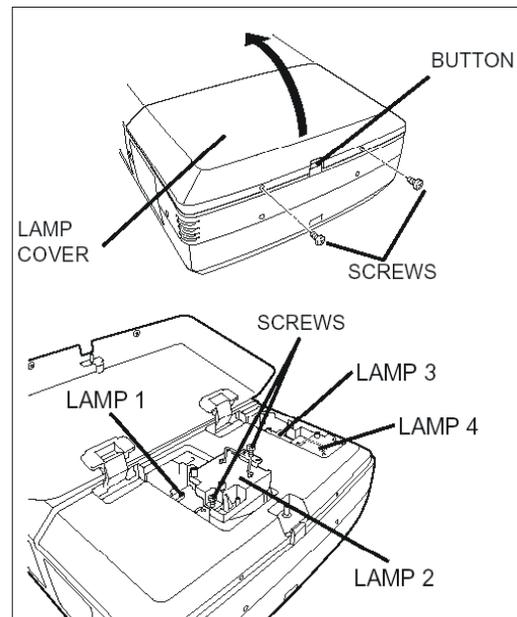

Figure 1. Lamp Cover and Lamp Assembly Removal
- Remove the two screws from the lamp cover and press the designated button to open the cover. Refer to Figure 1.
- Loosen the two screws inside the cover and pull out the lamp assembly to be replaced by grasping the handle. Refer to Figure 1.